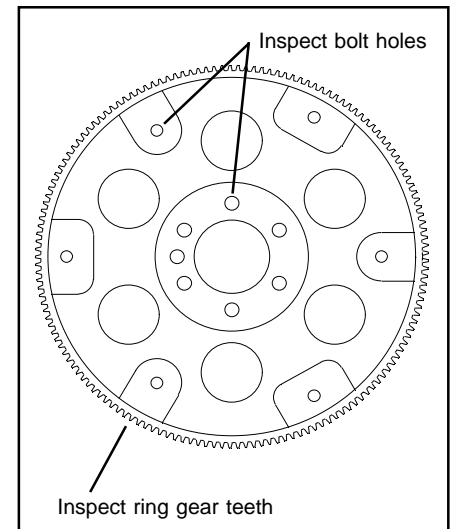

Fig. 3
STEP 8. Remove and inspect the flexplate for distortion, cracks or damaged ring gear teeth, see (Fig. 3). If the flexplate shows any damage it should be replaced. Do not attempt to repair a damaged flexplate.